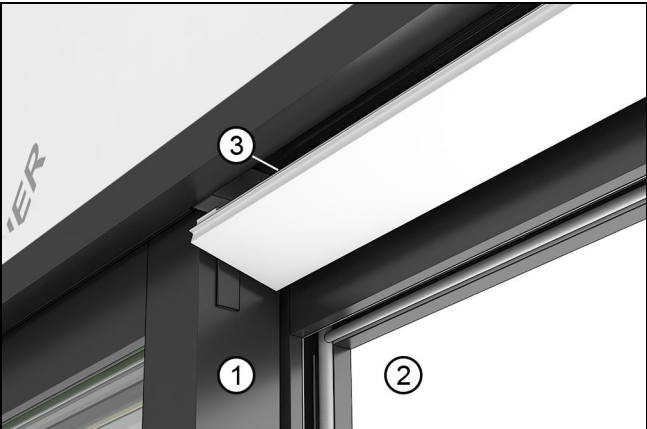
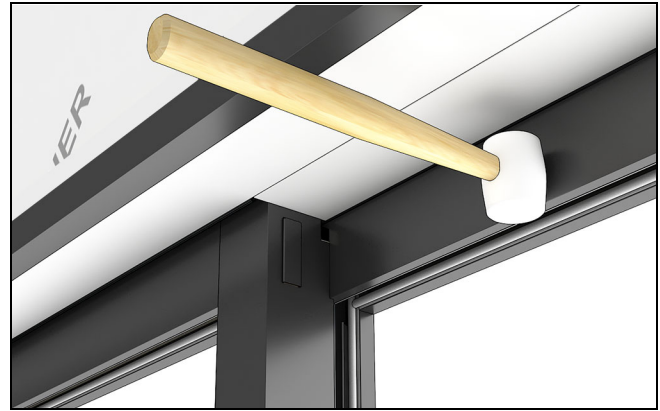

Figure 180 Exterior frame covers
Figure 182
2. Starting from the exterior, install the head jamb covers. The covers have a leg that fits into a kerf on the jamb weather strip or a kerf in the frame itself. Fit the leg on the cover into the kerf on the jamb and rotate the cover into place. You may need to seat the cover with a rubber mallet. See Figure 180, Figure 181, and Figure 182.